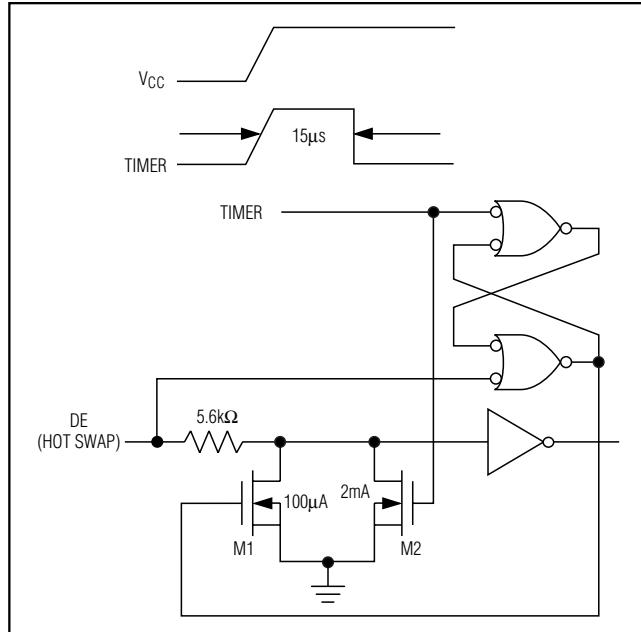

Figure 10. Simplified Structure of the Driver Enable Pin (DE)
At the driver-enable input (DE), there are two NMOS devices, M1 and M2 (Figure 10). When V_{CC} ramps from zero, an internal $15\mu\text{s}$ timer turns on M2 and sets the SR latch, which also turns on M1. Transistors M2, a 2mA current sink, and M1, a $100\mu\text{A}$ current sink, pull DE to GND through a $5.6\text{k}\Omega$ resistor. M2 pulls DE to the disabled state against an external parasitic capacitance up to 100pF that may drive DE high. After $15\mu\text{s}$, the timer deactivates M2 while M1 remains on, holding DE low against tri-state leakage currents that may drive DE high. M1 remains on until an external current source overcomes the required input current. At this time, the SR latch resets M1 and turns off. When M1 turns off, DE reverts to a standard, high-impedance CMOS input. Whenever V_{CC} drops below 1V , the input is reset.